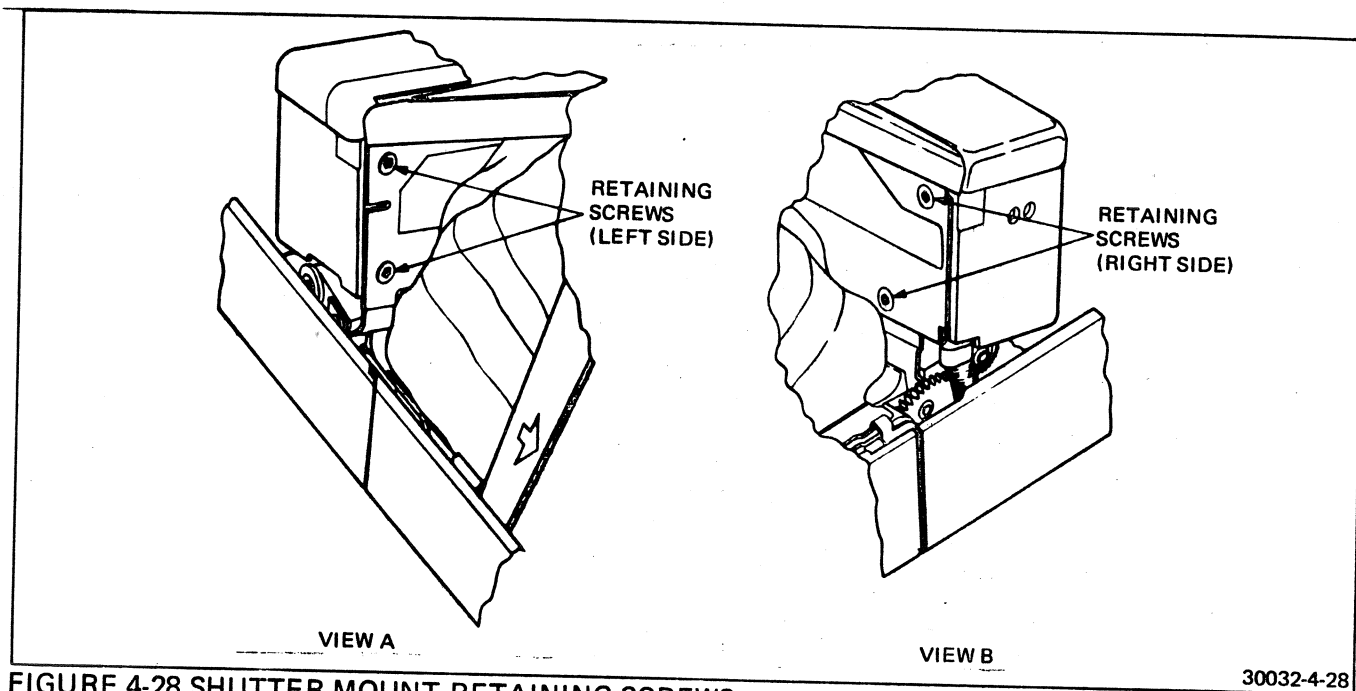

FIGURE 4-28 SHUTTER MOUNT RETAINING SCREWS
- d. At the back side of the shutter mounting bracket, remove four screws which secure the shutter. (Figure 4-28).
15. At the back side of the shutter mounting hinge bracket, remove the four screws which secure the shutter to the bracket. See Figure 4-28. Lift off the shutter.